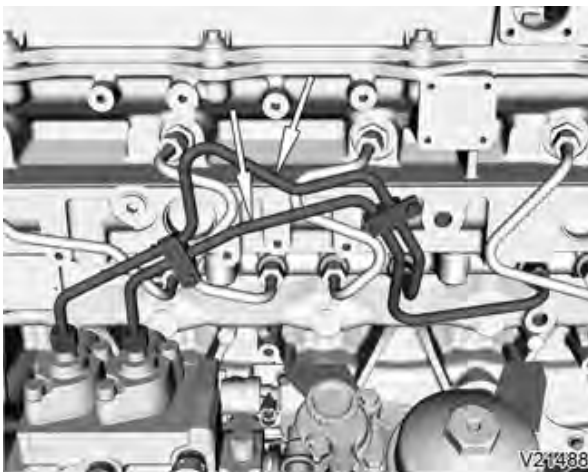

Figure 10. HP Fuel Pump-to-Rail Tube Assembly
24. Remove HP fuel pump to rail tube assemblies 1 and 2. Cap open fuel rail connections with clean protective Air and Fuel Caps (ZTSE4891) (Figure 10).